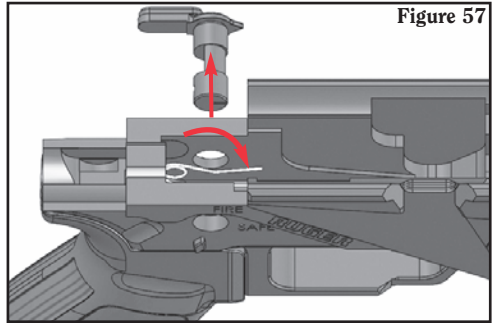

Figure 57
1. As you depress the long leg of the selector spring with your finger or a soft tool, remove the safety selector switch by pulling it out from the indicator side. (See Figure 57.)